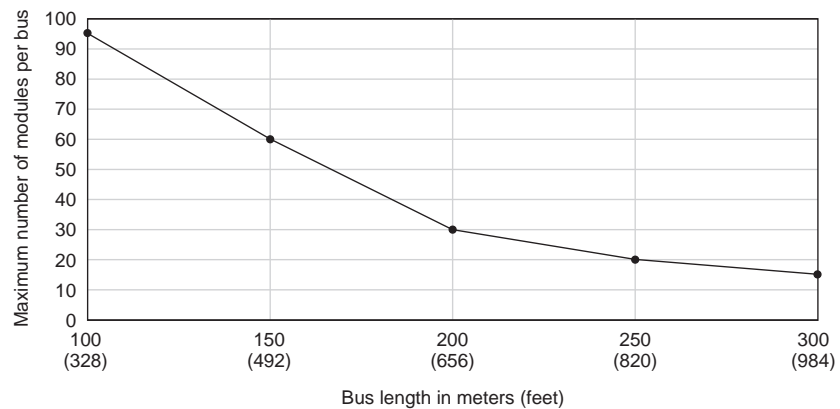

Figure 3-1: Maximum Number of Modules Per Bus Versus Bus Length
- A Galaxy SC controller can support one, two, or three buses of RPM modules. Up to 95 RPM modules can be installed on any one bus, but the total number of modules installed on all three buses cannot exceed a total of 255. Each bus can have a maximum reach of 300 meters. Figure 3-1 illustrates the relationship of distance to number of modules.
Although it is difficult to characterize every network bus configuration, Figure 3-1 offers a general guideline. Consult with GE Critical Power Engineering regarding system installations that differ from this general guideline.